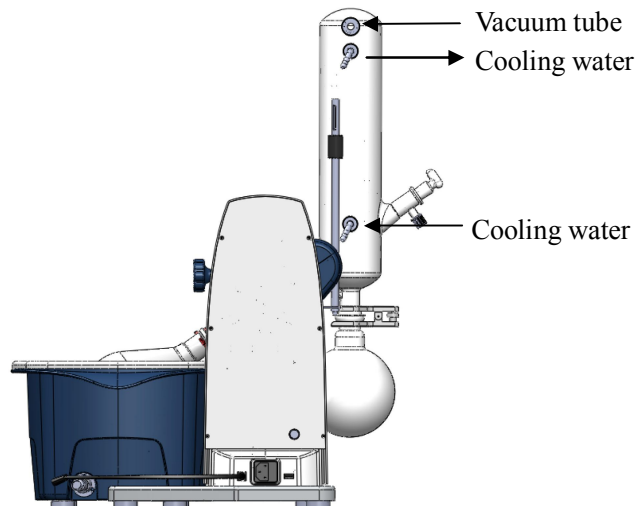

Figure 15
- Connecting tubes (Figure 15).